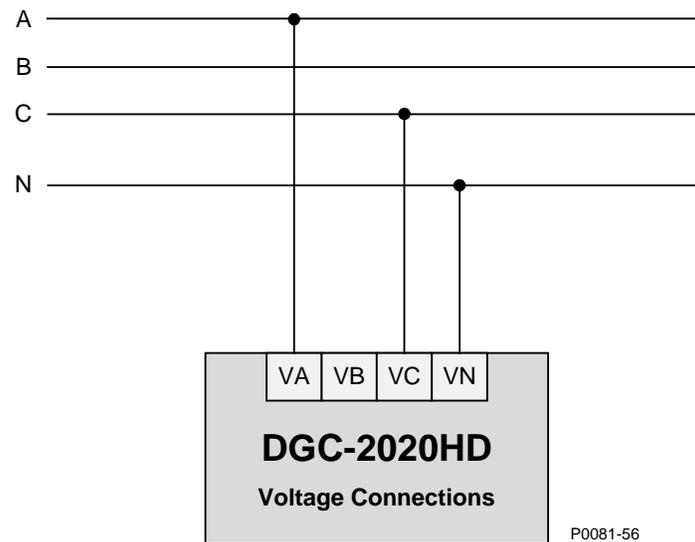

Figure 9. Single-Phase A-C Connections
- Single-phase A-C..... Figure 9
Figure 9 illustrates typical single-phase A-C connections for all DGC-2020HD bus voltage sensing connections: Generator, Bus 1, and Bus 2. Use the terminal numbers listed below for connecting the desired bus type. Refer to the *Terminals and Connectors* chapter for rear panel terminal numbering.